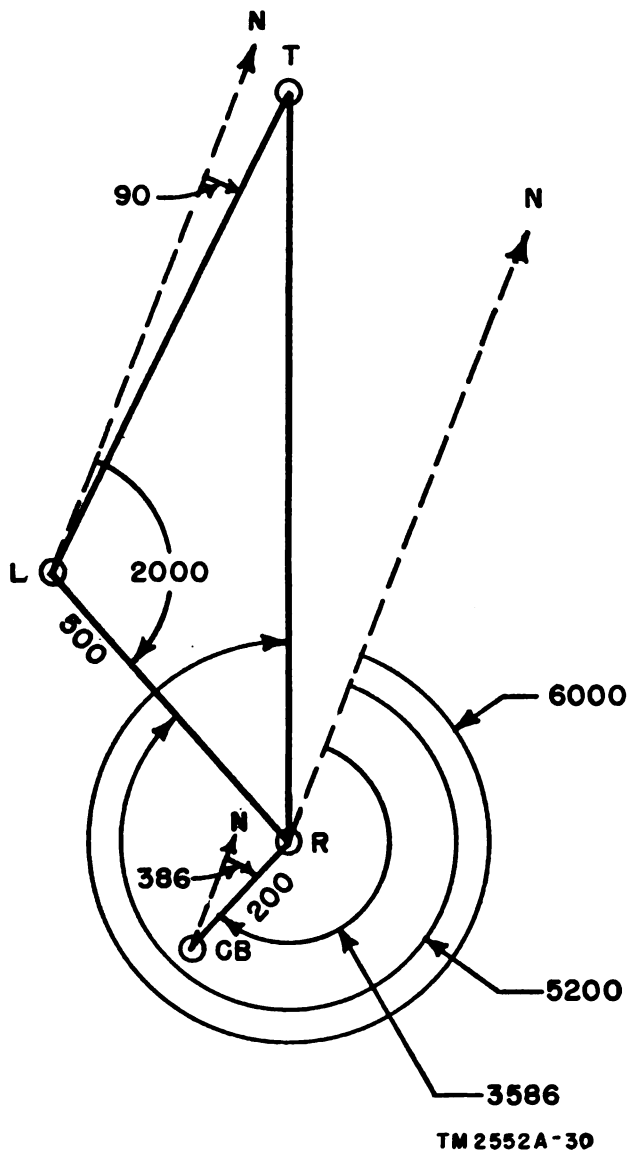

Figure 29. Locating the target.
After the azimuth of the target blast from each array position (par. 32), the azimuth and distance of the base line, and the azimuth and distance of the counter battery (CB) have been computed, plot these points (fig. 29) on Plotting Board M-10 to locate the target (T). Figure 29 is set up as an example, with *given* values, to illustrate the procedure. Use figure 29 in conjunction with the subparagraphs below.
### 37. Summary of Computation Procedure (fig. 29)